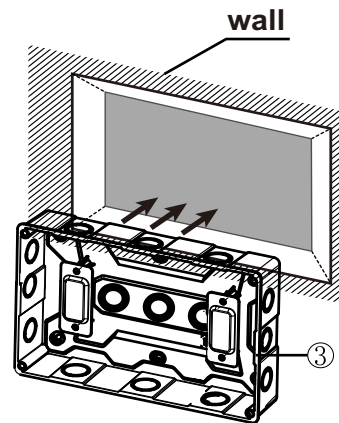

Fig. 3 — Installing the Mounting Box
5. Install the Mounting Box (3) into the 10-1/4" by 6-5/8" opening in dry wall or mounting surface making sure the box is flush with the wall surface. See Figure 3. Use the 6 short screws to fasten the plastic mounting box. Use plastic washers as needed for alignment and to prevent damage to components.